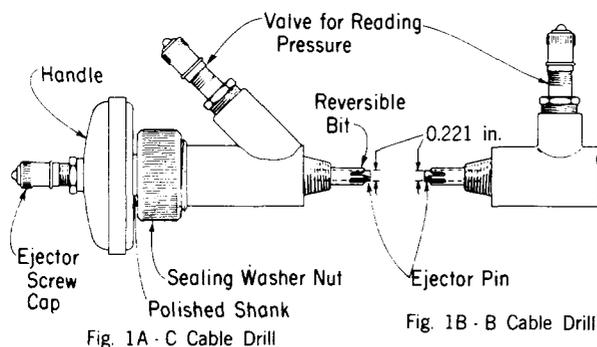

Fig. 1 - B and C Cable Drills
2.01 The B and C Cable Drills illustrated in Fig. 1 are used for making a 1/4-inch hole for a B or C Flange. Each of these drills serves as a cable drill and temporary valve. This provides a convenient method of making valve connections to a lead sleeve or lead cable sheath without loss of gas, and eliminates waiting for equalization of pressure when it is necessary to make accurate pressure measurements at points between existing valves.